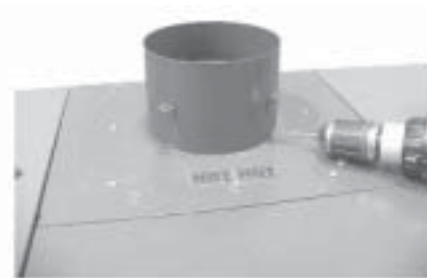

Fig. 1
2. Slide the vent collar from kit over the collar on heater as shown in **Fig. 1**.
3. Drill a 3/16" pilot hole into the heater collar through each of the holes on the lower vent collar. See **Fig. 1**.